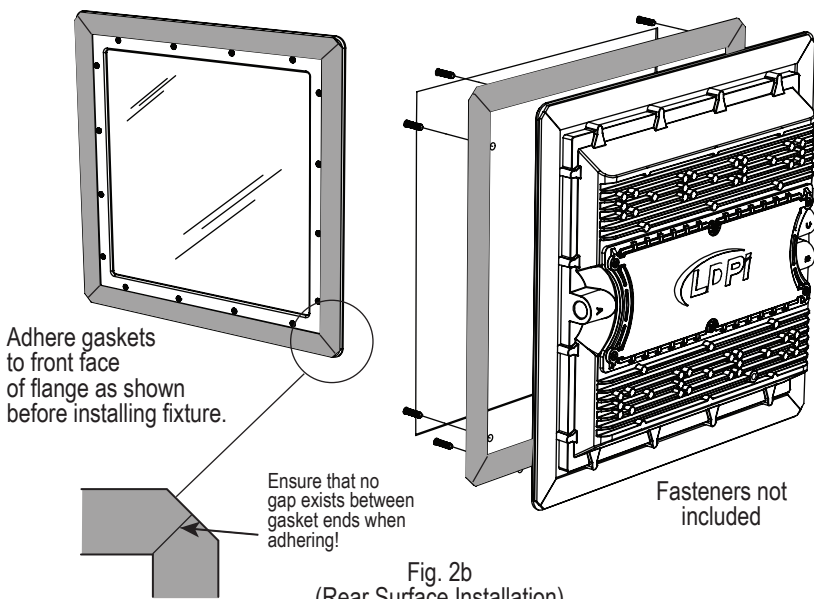

Fig. 2b
- Rear surface option. Installed outside the booth (Fig. 2b) (Separate flange gasket required.)